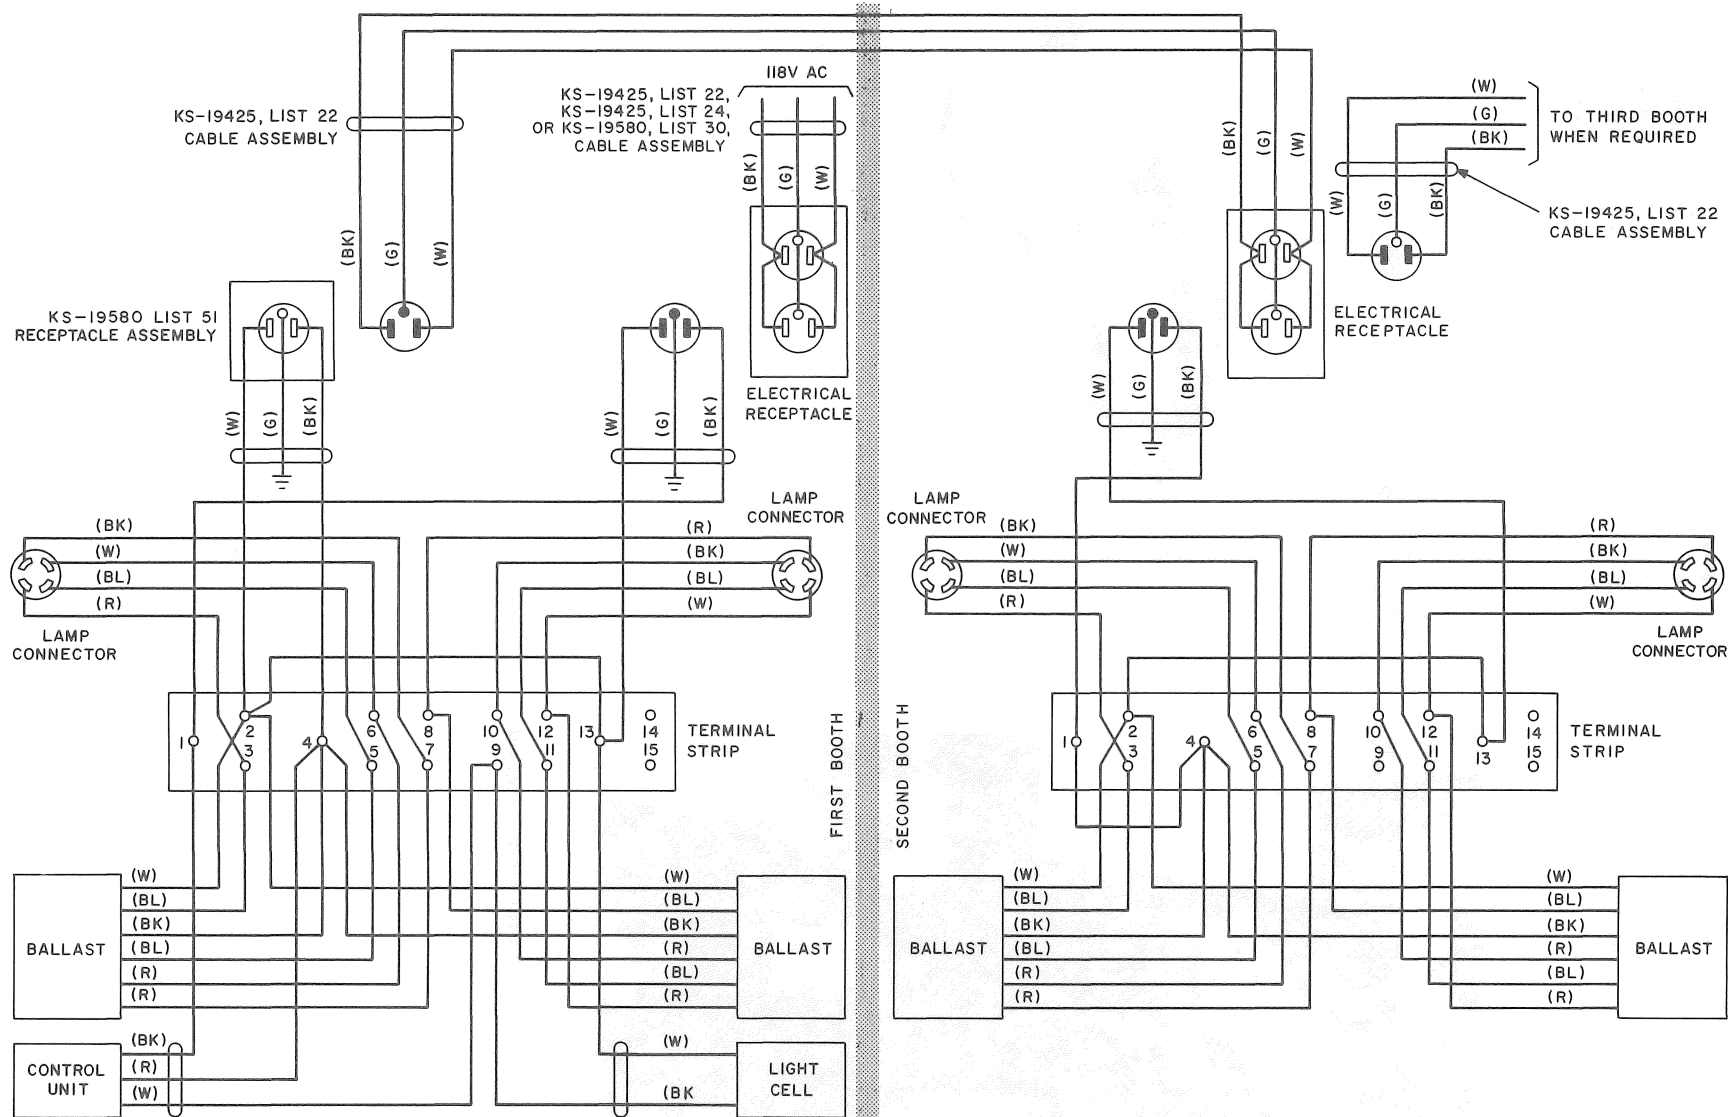

Fig. 24—Wiring Diagram of KS-19261 Light Control Unit Used in Multiple Installation Without Blowers
- 4.05 Connect the KS-19580, List 51 receptacle assembly to the terminal strip as shown in Fig. 24.
- 4.06 Connect the electrical receptacle of each booth to the previous booth in accordance with Fig. 24.